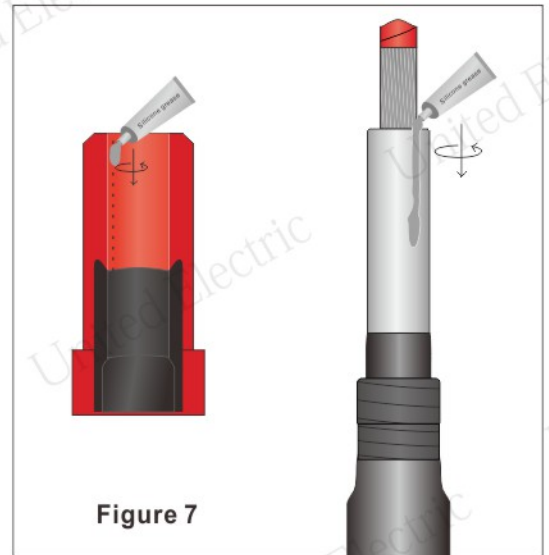

Figure 7
- Coat silicone grease onto the inner surface of the stress cone where mark with the broken line as shown in figure 7.